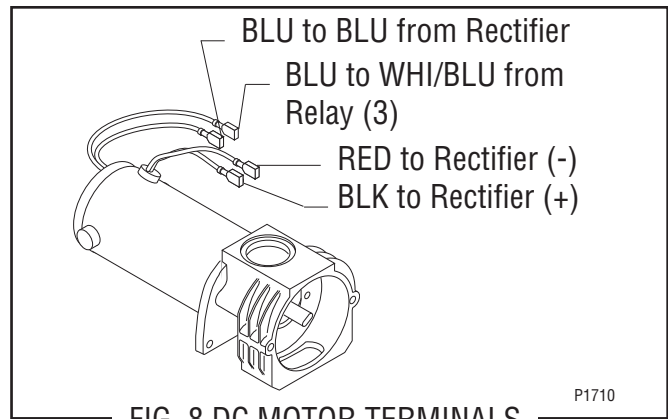

FIG. 8 DC MOTOR TERMINALS
18. Install motor and bracket through the rear of the grinder, position on the grinder housing bracket and secure with four .312"-18 screws (20), rubber washers (22) and flat washers (21).
19. Install stationary burr (9) to the grind chamber housing using two .250"-20 screws (8).
20. Install burr (7), burr auger rotor/spring assembly (3) and burr rotor disc (4) on to motor shaft.
21. Install grind selector dial plate and grind selector knob assembly (2) on the grind chamber housing and secure with two .250"-20 screws.
22. Refer to Fig. 8 and reconnect the wires to the motor and Fig. 13 and reconnect the wires to the rectifier.